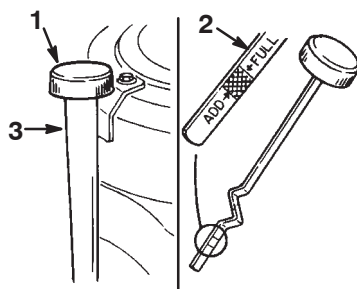

Figure 28
2. Clean around the oil dipstick (Fig. 28) so dirt cannot fall into the filler hole and damage the engine.
3. Unscrew the oil dipstick and wipe the metal end clean (Fig. 28).
4. Slide the oil dipstick fully into the filler tube; **do not** thread it onto the tube (Fig. 28).
5. Pull the dipstick out and look at the metal end (Fig. 28).
6. If oil level is low, slowly pour only enough oil into the filler tube to raise the level to the Full mark (Fig. 28).
7. Slowly pour approximately 80% of the specified amount of oil, refer to page 25, into the filler tube (Fig. 28).
9. Slowly add additional oil to bring the level to the Full mark on the dipstick (Fig. 28).